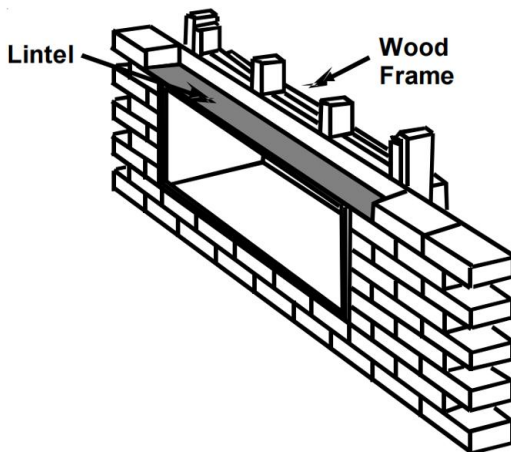

Figure 3
3.If installed in a concrete or masonry wall, a lintel must be provided in the wall opening for support. Do not use the wall sleeve as a lintel. If the wall is less than 203.2mm thick or of hollow construction, an alternate means of support for the sleeve must be provided. See Figure 3 for a typical lintel construction.